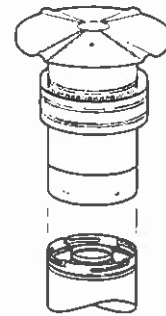

FIGURE 22
K. Install the vertical termination - The final step involves installation of the SV4.5VTR Vertical Termination. Extend the vent sections to the height as shown in the "Vertical vent termination section" on page 5. The SV4.5VTR Vertical Termination (*Figure 22*) installs in the exact same fashion as any other **Secure Vent** section. Align the termination over the end of the previously installed section, adjusting the radial alignment until the four locking dimples of the termination are aligned with the inlets of the four incline channels of the last vent section. Push the termination down until it fully engages, then twist the termination clockwise running the dimples down and along the incline channels until they seat at the end of the channels.